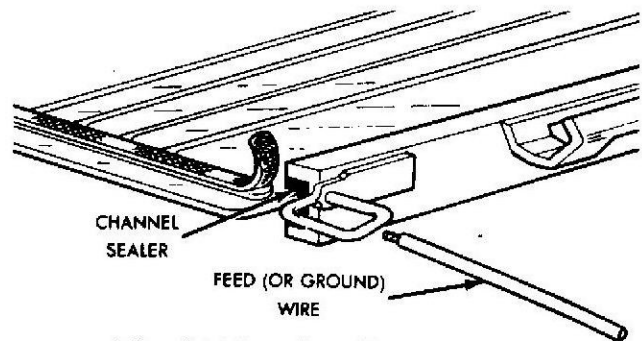

Fig. 2 Trimming Channel Sealer
- (3) Remove any excess channel sealer that protrudes from end of channel (see fig. 2).